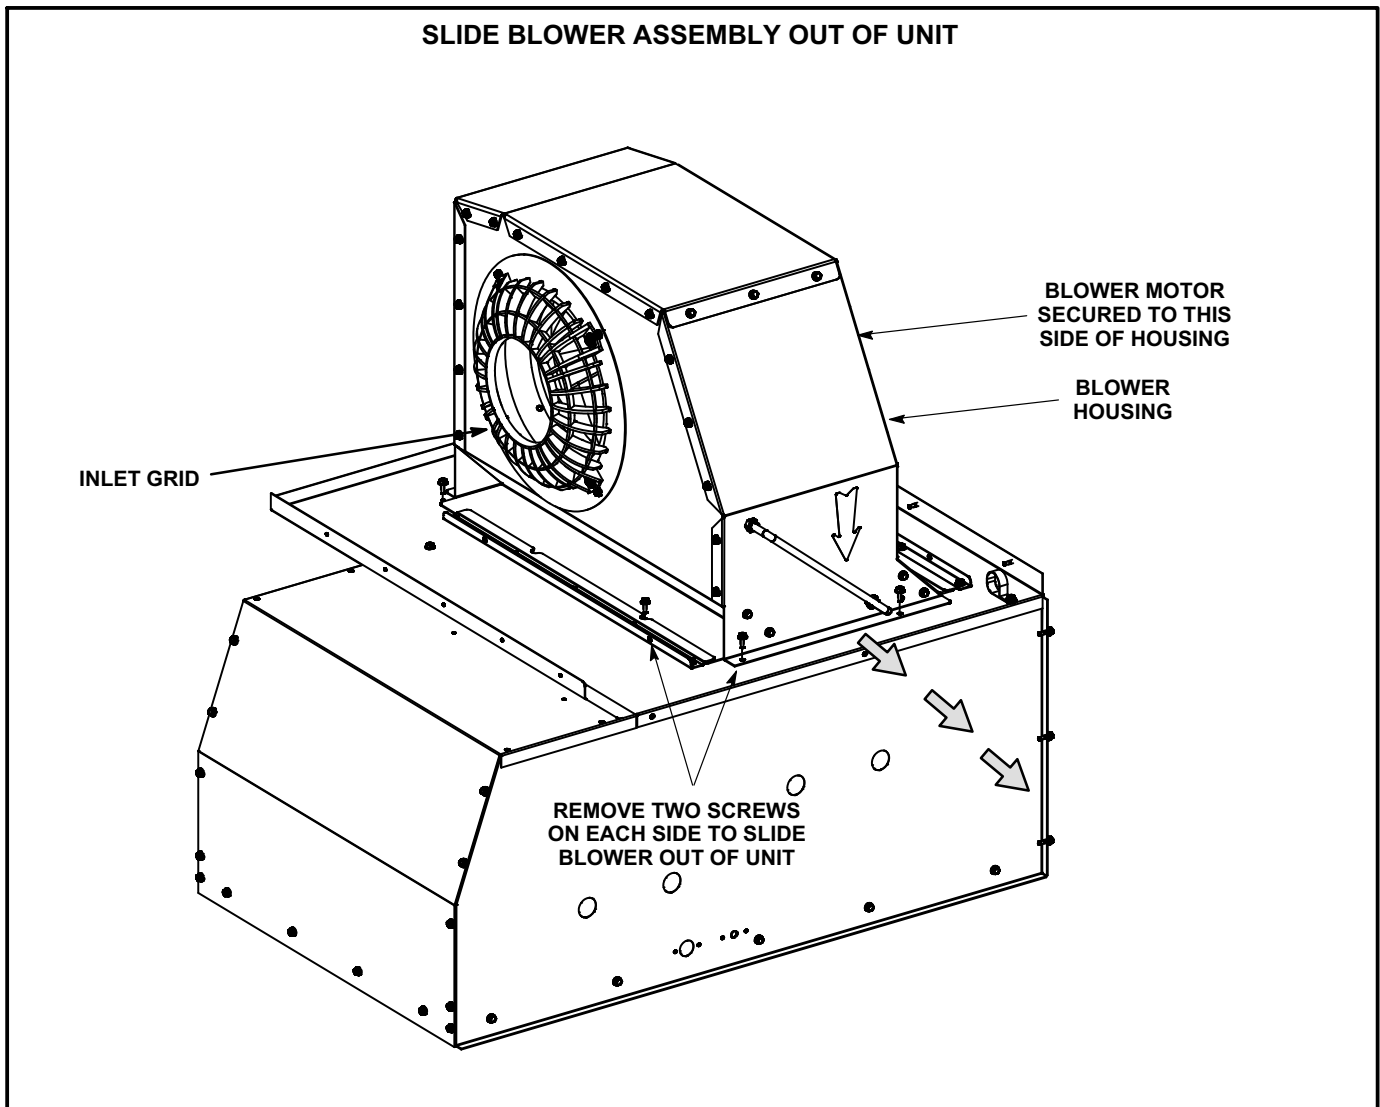

FIGURE 3
- 6- Remove four screws securing blower assembly to unit. See figure 3.
- 9- Install replacement blower assembly flanges into rails on the blower deck in the same manner it was removed. Secure into place using four screws shown in figure 3.